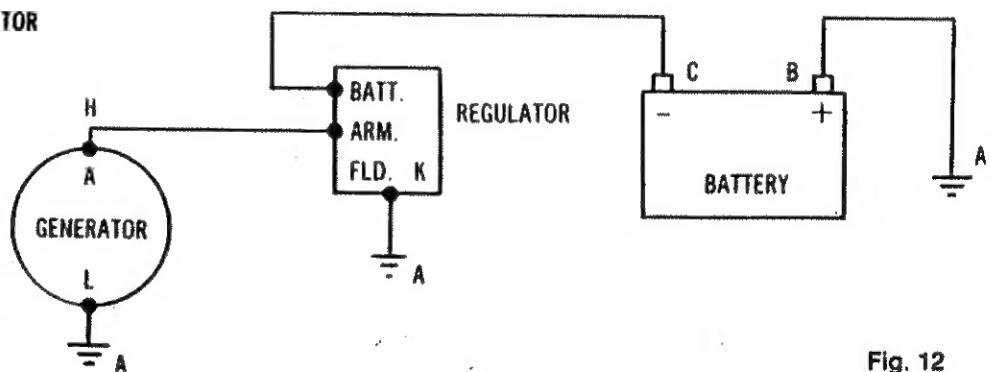

Fig. 12
7. Connect "External Volt Leads" to charging circuit to be tested following the step by step procedure indicated in Fig. 12 below and check against test values in Table 3 page 18.